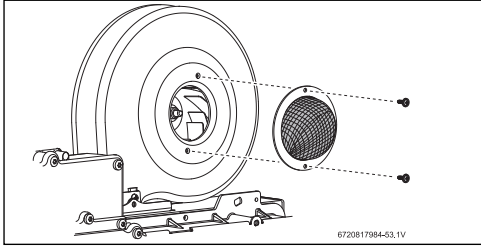

Fig. 53 Remove/assembly air filter
- Verify if the air filter is clean and undamaged. The air filter is attached to the fan assembly, see fig. 53.